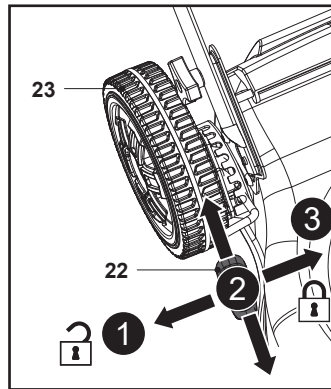

Fig. 16
1. Pull the lever for cutting height adjustment (22) towards the rear wheel (23) (Fig. 16, step 1) and hold it in position.
2. Move the lever for cutting height adjustment (22) forward or backward to the desired cutting height (Fig. 16, step 2).
3. Release the lever for cutting height adjustment (22) and ensure it engages into place properly (Fig. 16, step 3).